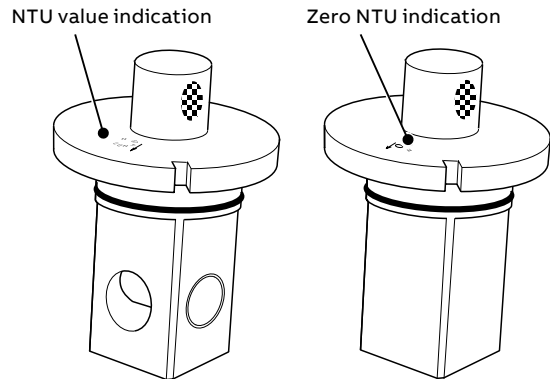
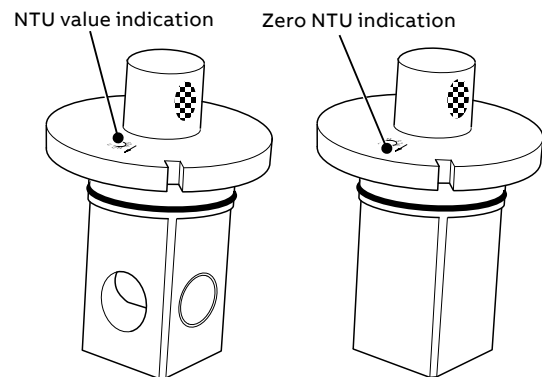
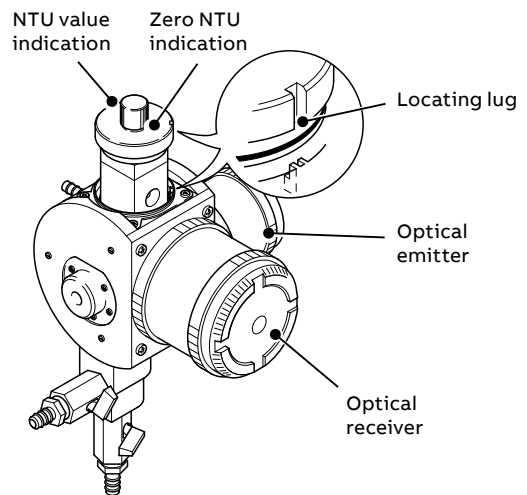

Figure 12 Dry calibration standard for low range sensors
Figure 13 Dry calibration standard for high range sensors
Figure 14 Inserting dry standard
- 9 Insert the dry calibration standard with the zero NTU indication (refer to Figure 12 or Figure 13) facing the optical receiver, ensuring the locating lug engages correctly. Refer to Figure 14.